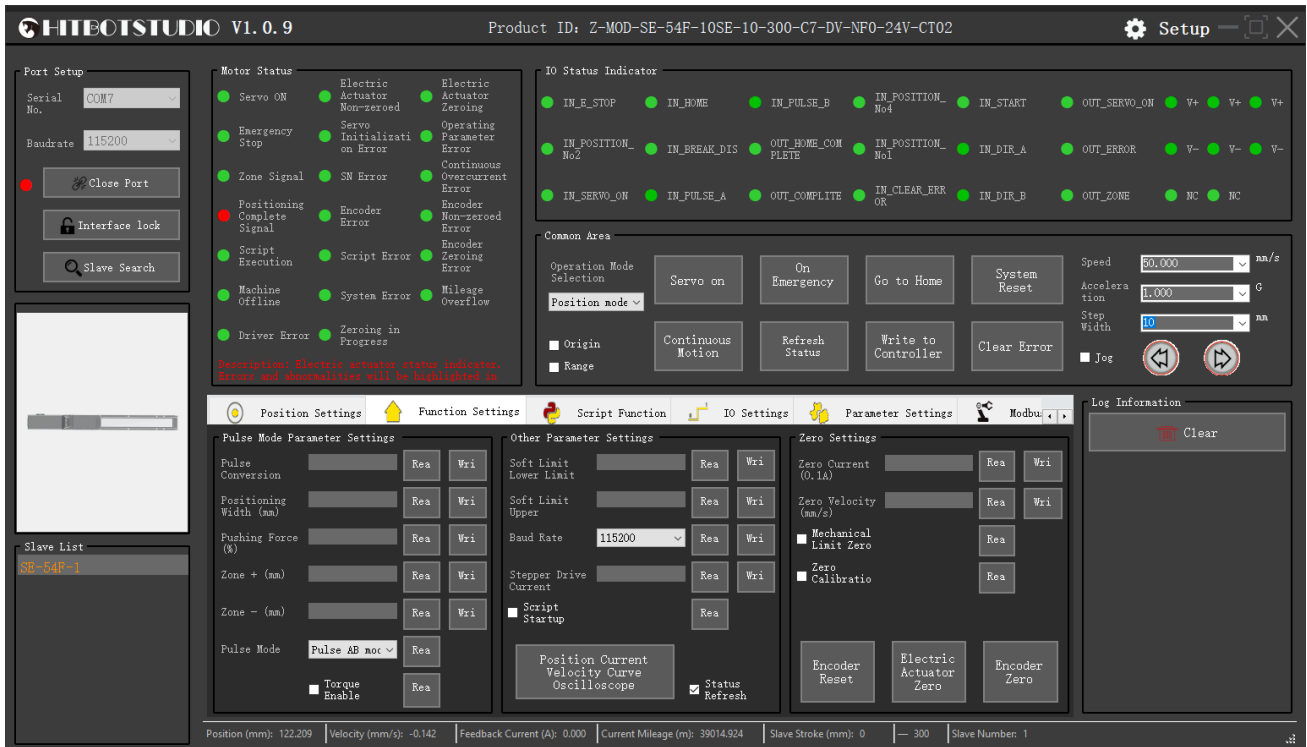

Figure 3-23 (Actuator Module Operation Interface)
(2) By clicking on the device in the slave list, users can access the actuator module interface, which includes features such as position mode debugging, function settings, script functions, I/O settings, parameter settings, Modbus tools, manual debugging, actuator status, and IO status indicators. Figure 3-23 shows the actuator module operation interface.